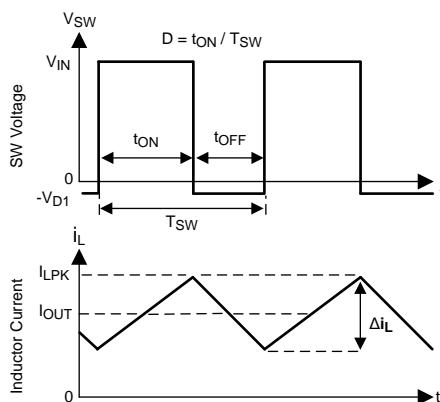

Figure 33. SW Node and Inductor Current Waveforms in Continuous Conduction Mode (CCM)
The following operating description of the LM46002-Q1 refer to the Functional Block Diagram and to the waveforms in Figure 33. The LM46002-Q1 is a step-down buck regulator with both high-side (HS) switch and low-side (LS) switch (synchronous rectifier) integrated. The LM46002-Q1 supplies a regulated output voltage by turning on the HS and LS NMOS switches with controlled ON-time. During the HS switch ON-time, the SW pin voltage V_{SW} swings up to approximately V_{IN} , and the inductor current I_L increases with a linear slope $(V_{IN} - V_{OUT}) / L$. When the HS switch is turned off by the control logic, the LS switch is turned on after a anti-shoot-through dead time. Inductor current discharges through the LS switch with a slope of $-V_{OUT} / L$. The control parameter of buck converters are defined as duty cycle $D = t_{ON} / T_{SW}$, where t_{ON} is the HS switch ON-time and T_{SW} is the switching period. The regulator control loop maintains a constant output voltage by adjusting the duty cycle D . In an ideal buck converter, where losses are ignored, D is proportional to the output voltage and inversely proportional to the input voltage: $D = V_{OUT} / V_{IN}$.